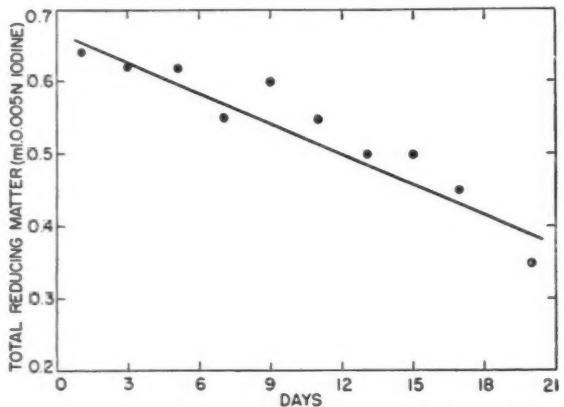

Fig. 8. Total reducing substances as milliliters 0.005N iodine.
Total reducing substances as determined according to the method described in *Cereal Laboratory Methods* (1) are shown in Fig. 8. There is a gradual decline in reducing substances. This is probably due to natural oxidation which has occurred during the storage period.